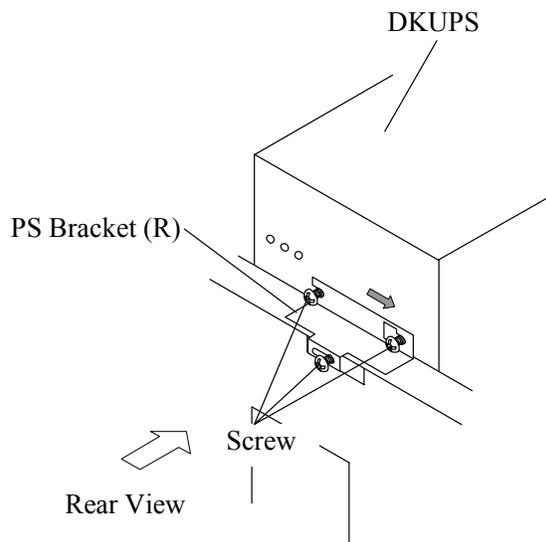

Fig. T15-2 Removal of Bracket
- c. Loosen the four screws and remove the PS bracket (F).
e. Attach the PS bracket (F) and fasten the four screws.
g. When the PS bracket (R) is moved by step a, slide the PS bracket (R) to the left side and fasten the three screws. (Refer to Fig. T15-2.)